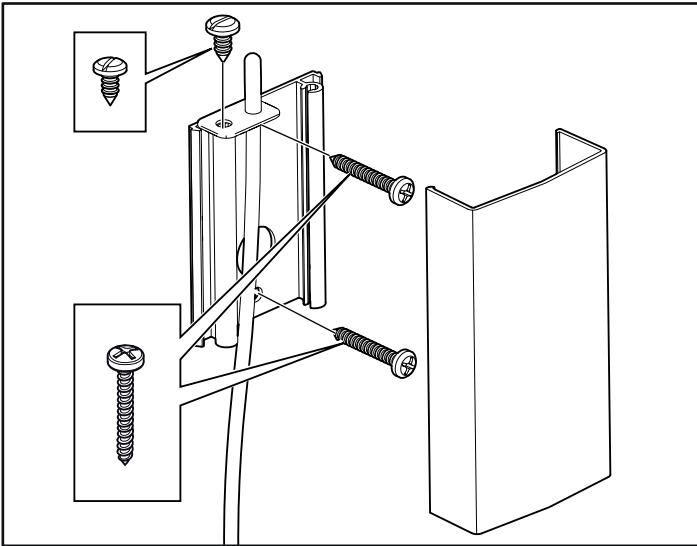
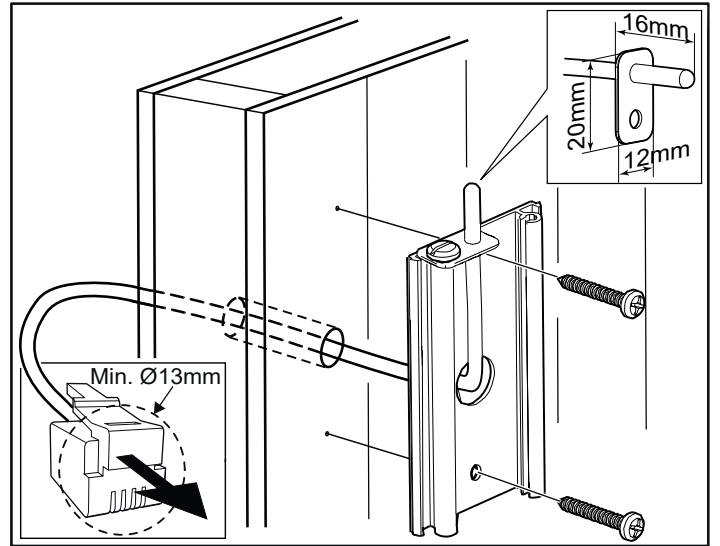

Figure 15: Installing the sensor
Figure 16: Wiring through the wall.
13. Install the sensor on the wall see Fig 15. The thermistor wire may also be passed through the wall. Seal any holes in the wall behind the sensor, see Figure 16. The thermistor wire may be extended outside the sauna using low voltage wire (2-lead).